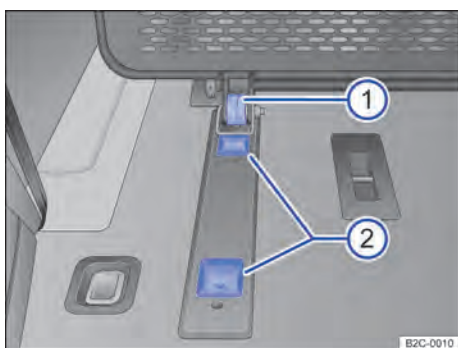

Fig. 137 In the load compartment: Lower anchor point.
2. Push the bottom of the partition grille with the roller → Fig. 137 ① into the rear recess in the anchor point ②.
2. Push the bottom of the partition grille with the roller → Fig. 137 ① into the front recess of the anchor point → Fig. 137 ②.